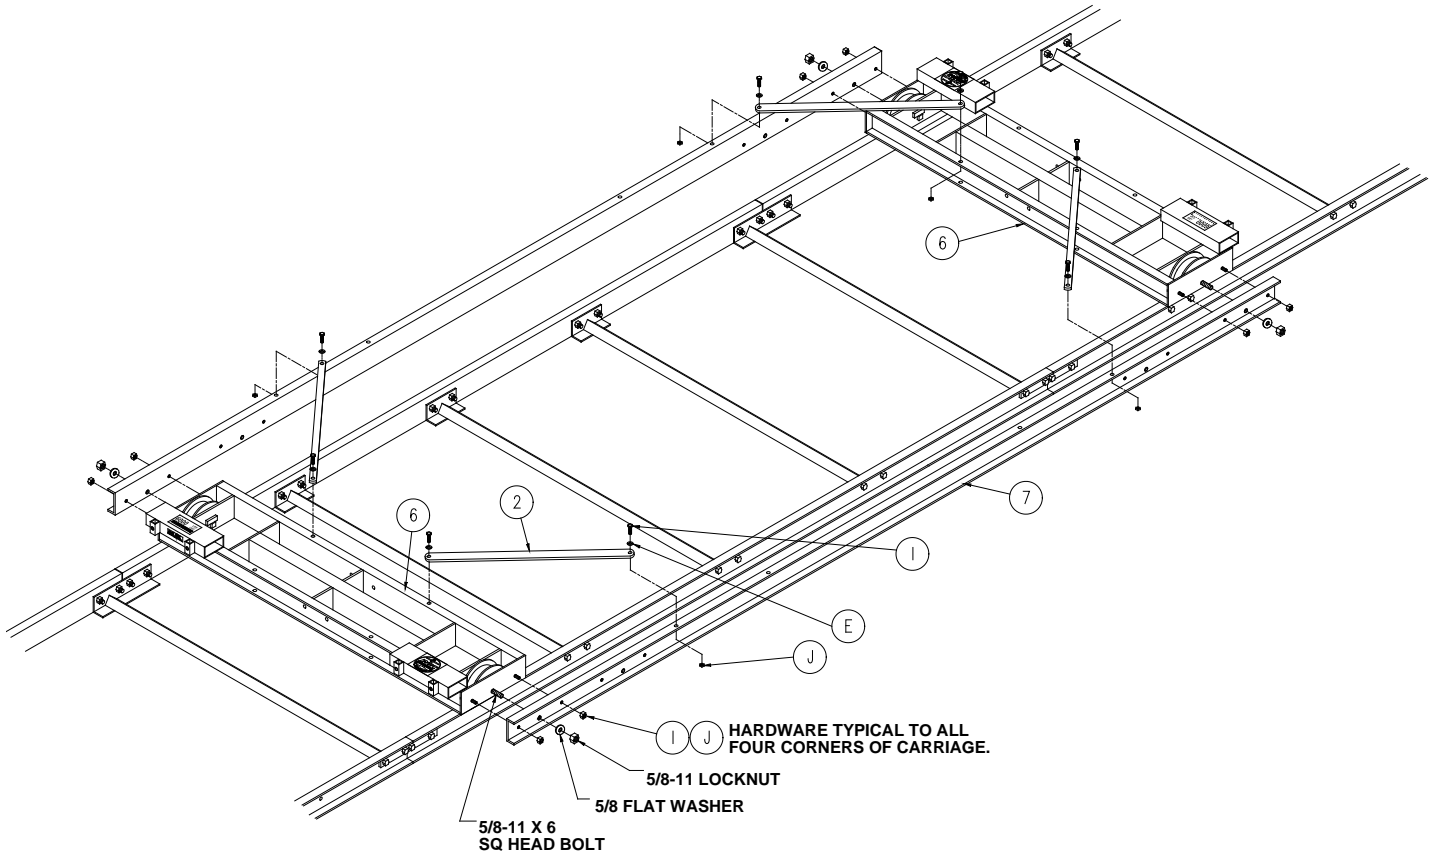

Figure 3-3.
1. Refer to **Figure 3-3**. Starting on the same end of each truck assembly, remove the **lock nut and washer only** from the two truck wheels and attach a carriage side to each truck assembly. Reinstall wheel hardware and additional hardware as shown.